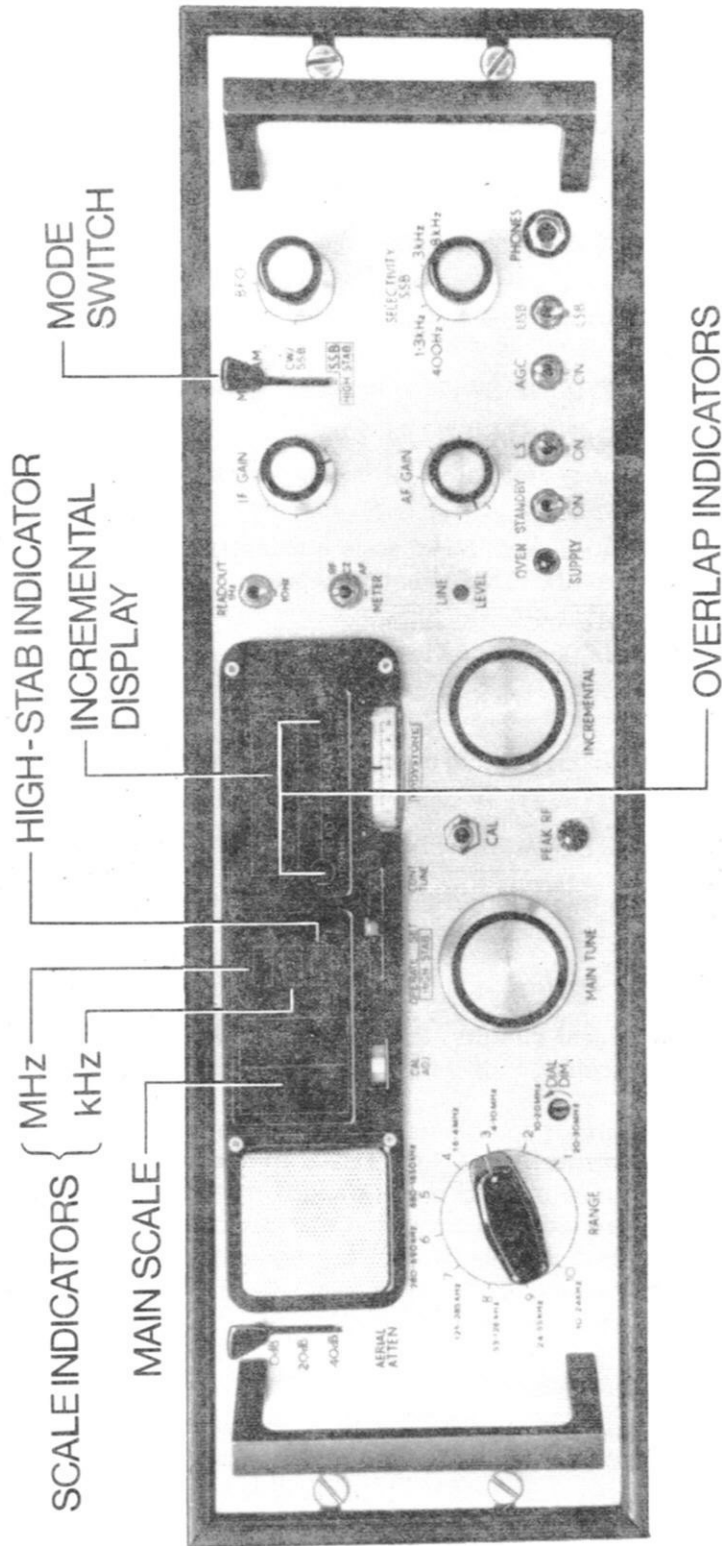

Fig. 5.1 Front view of receiver showing panel controls
6. Changes over the illuminated 'kHz' and 'MHz' scale indicators (see Fig. 5.1) to show which unit is applicable to the displayed MAIN TUNE frequency scale.
The two indicators are shown in Fig. 5.1 and carry the following legends:—
The HIGH STAB INDICATOR (see Fig. 5.1) should now be illuminated. If not, alter setting of MAIN TUNING CONTROL by small increments until the illuminated legend 'HIGH STAB' appears in the appropriate window.